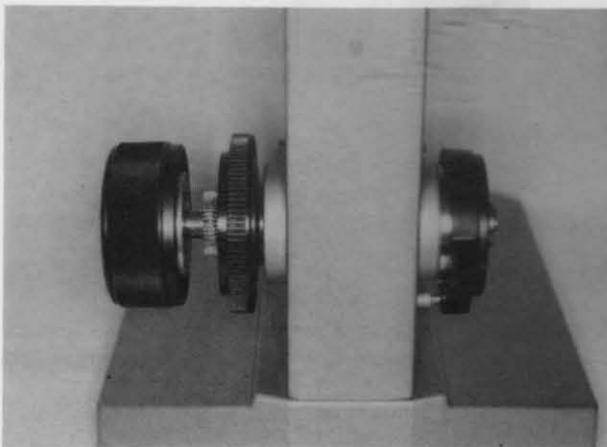

Fig. 4-19
- a) Reassemble the knob unit. (See Fig. 4-19)